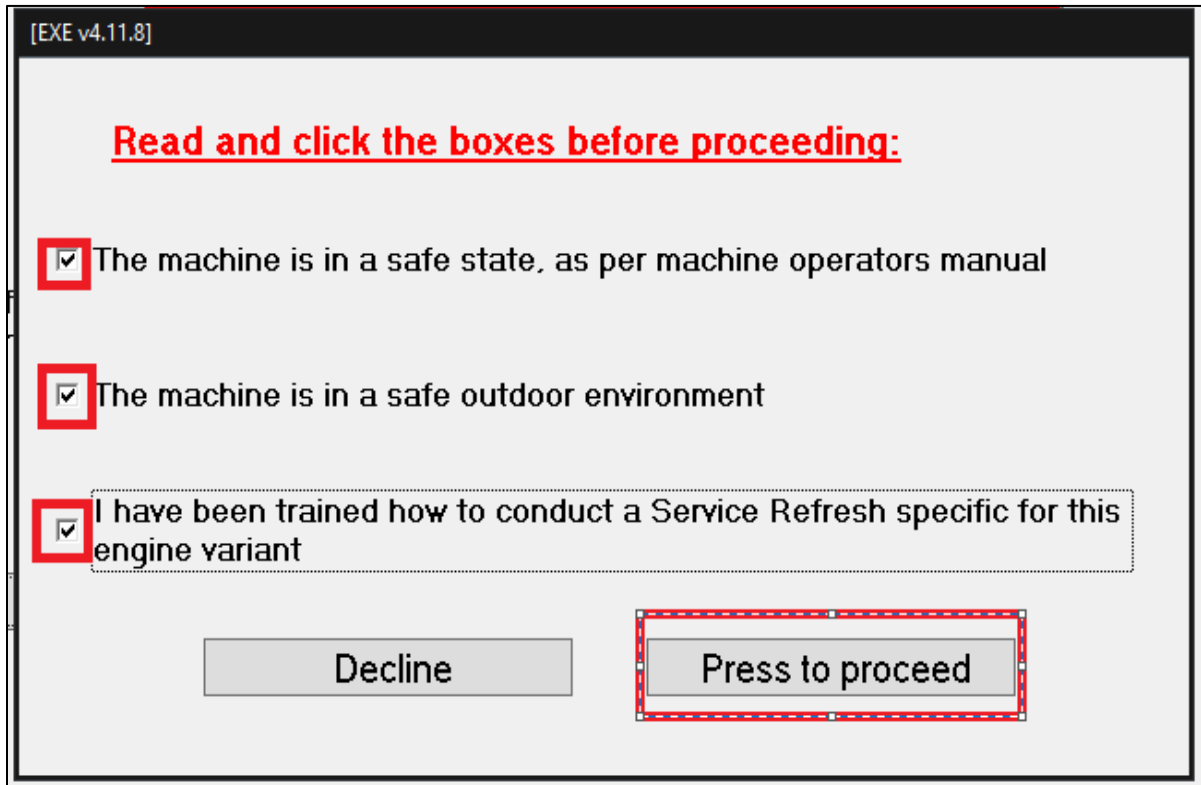

Figure 12
2. Check all three boxes ensuring the machine is in a safe location is a ready to perform the SCR refresh as shown in figure 12 below. Then once the 'Press to Proceed' button appears, click on it.